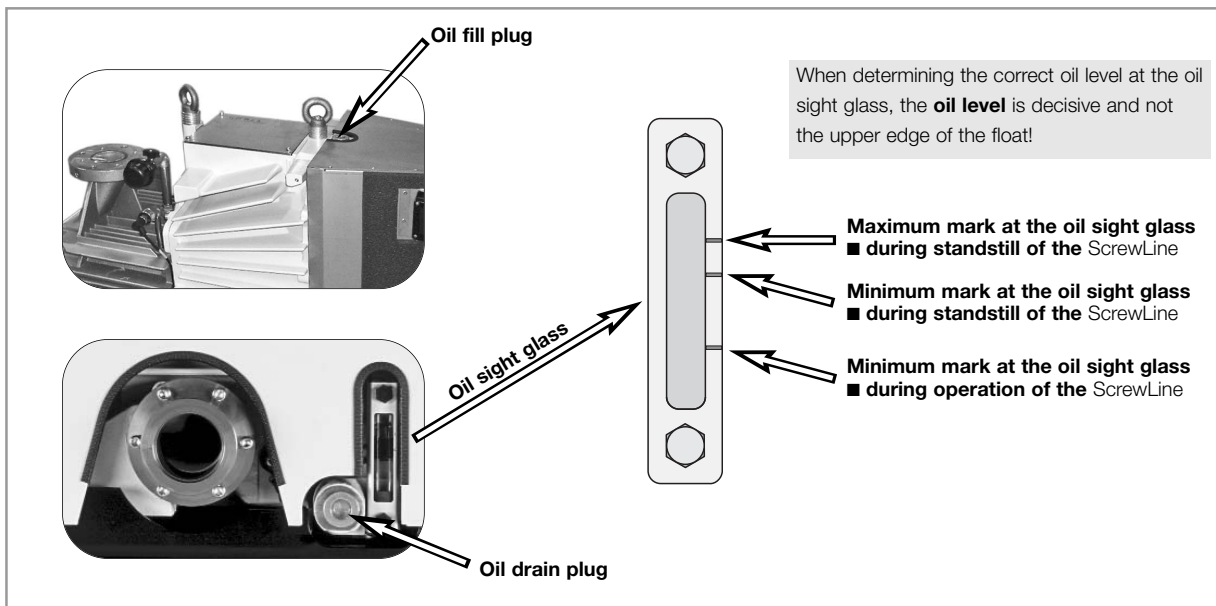

Fig. 10 Oil level at the oil sight glass of the ScrewLine SP 250
**Remove the oil fill plug (see Fig. 10) and fill in the lubricant. When doing so, make sure that the oil level, after filling, will be at the level of the maximum mark (see Fig. 10) during standstill of the pump.**
It needs to be observed that the oil level is filled up to the **maximum mark during standstill** of the pump (see Fig. 10).
Clean the oil fill port and screw the oil fill plug (Fig. 10) in again using a gasket which is in perfect condition.
When switching the pump on and off the oil level may fluctuate visibly. During operation of the pump the oil level will be between the maximum and the minimum mark (see Fig. 10). As soon as the oil level during operation of the pump drops to the minimum mark, oil must be topped up.